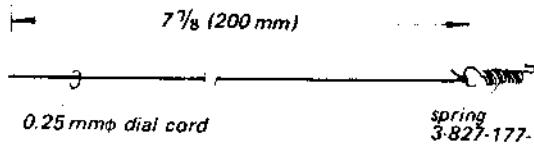

Fig. 2-23 Band-selector dial cord
- Tie one end of the cord prepared as specified in Fig. 2-23 to the spring.